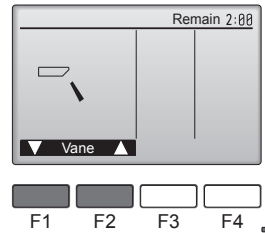

Fig. 7-4
- ② Press the [SELECT] button to display the Vane operation screen, and then press the [F1] and [F2] buttons to check the auto vane. (Fig.7-4)